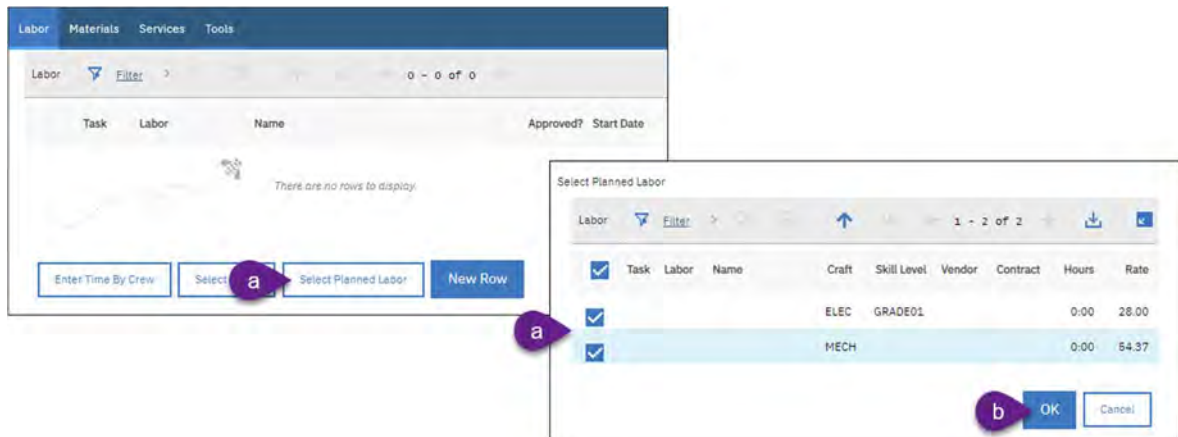

Figure 35 - Populating actual labor, based on planned crafts
1. Actual field work is done by Technicians. Work is records by Technicians, using Datasplice as mobile application, on mobile device. See Figure 35 below.